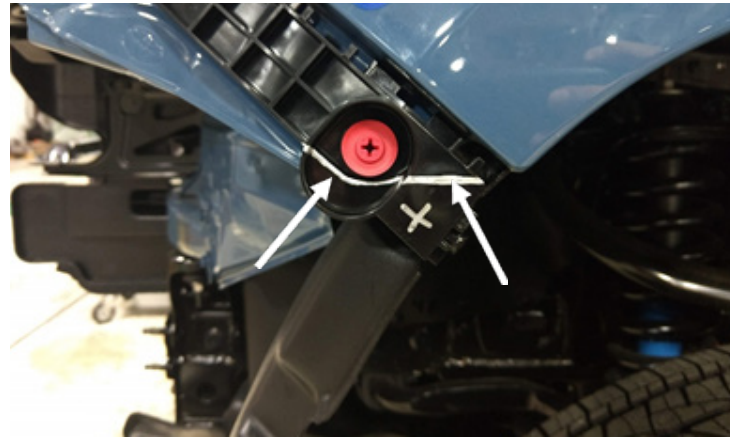

Figure 13
13. Using a silver sharpie and a body saw, mark and cut a line on the bumper cover bracket at the edge of the fender. (Figure 13)